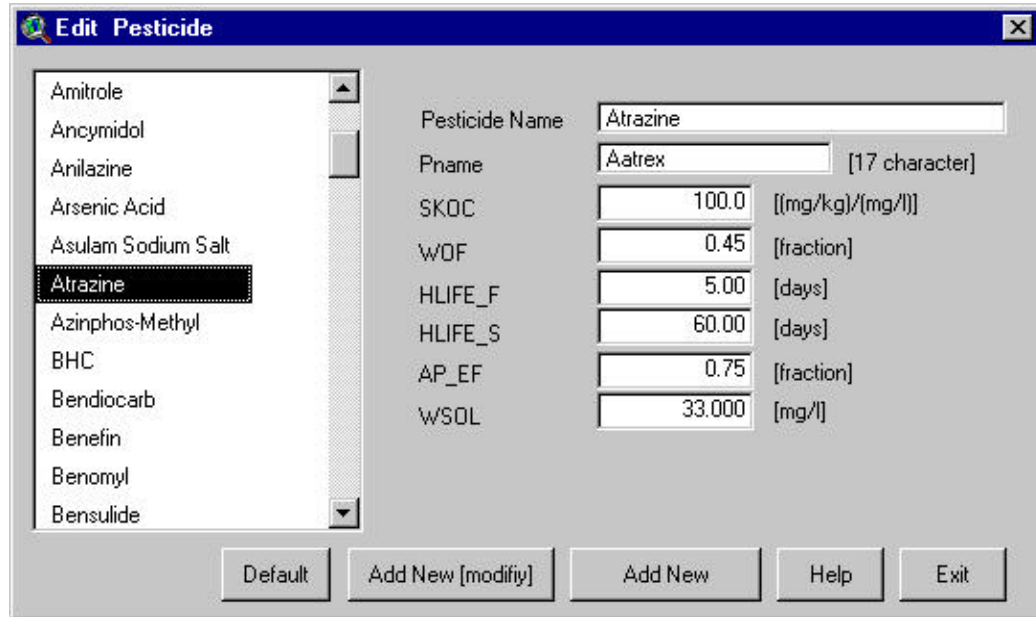

Figure 14.53
- The data for the pesticide will be displayed (Figure 14.53). A complete description of the parameters is provided in the *Soil and Water Assessment Tool User's Manual, Version 2000*, Chapter 16.